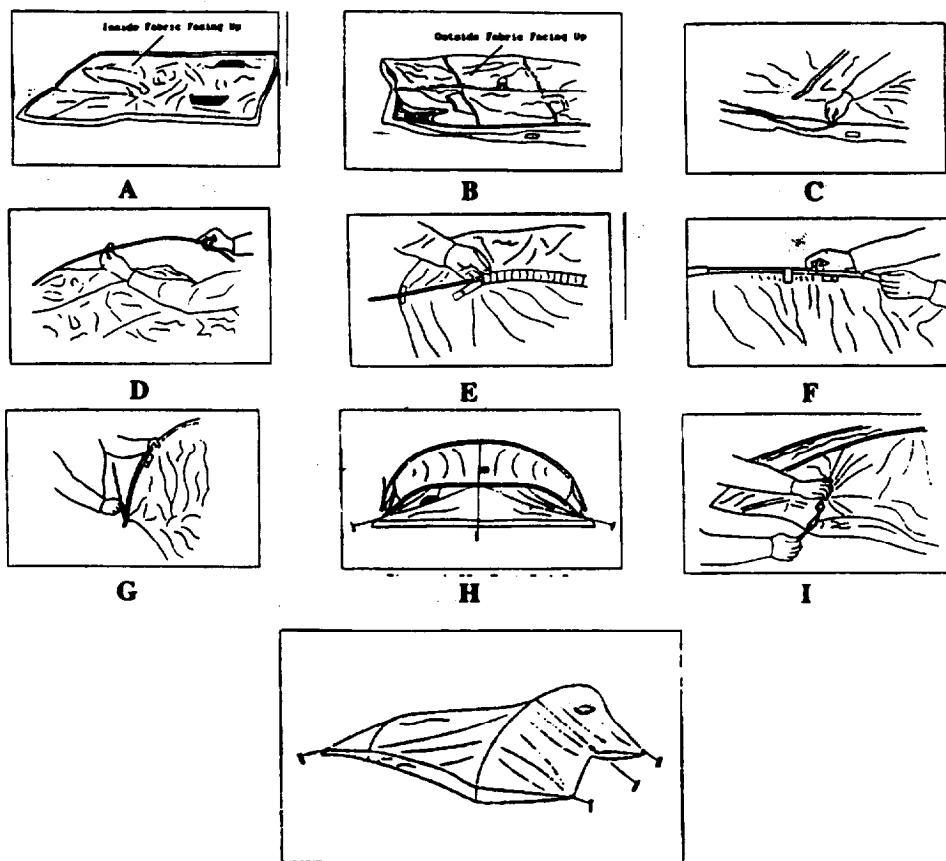

Figure 2-7. Tent Two-Person Shelter
- (3) To use the tent as a two person shelter. (See Figure 2-7). proceed as follows: